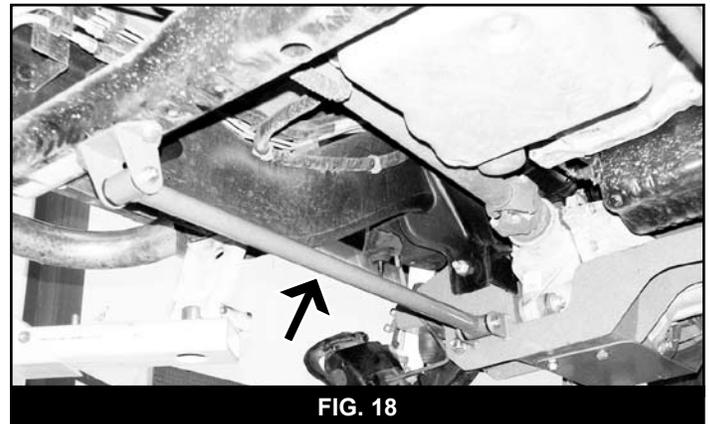

FIG. 18
61. Swing a compression strut up to the rear crossmember to help determine the positioning of the rear mounting bracket. With Allison transmissions the hole in the mounting tab should be closer to the front (Fig 18- Allison Transmission Shown). On other transmissions the hole will be closer to the rear.